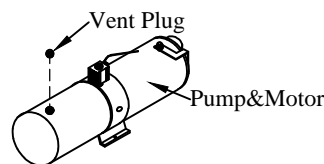

Figure 3: Vent plug installation.
4. **Unscrew** the solid plastic plug from the pump reservoir and **install** the vent plug provided, if not already installed (Figure 3).